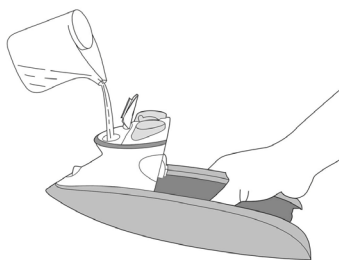

Fig. 3
6. Fill up to ‘Max’ level marked on the side of water tank. (See Fig. 3)